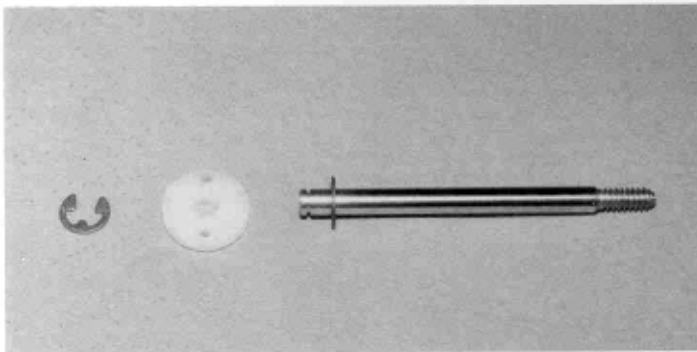

Fig. 53
□ **Fig. 53**— Install one "E"-clip on the shaft as shown.